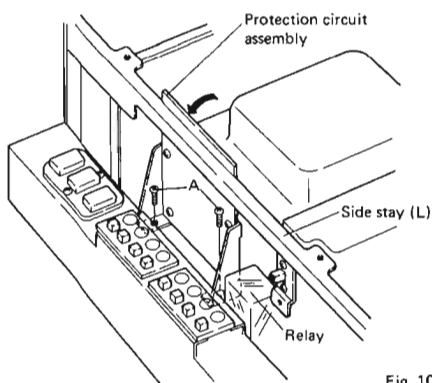

Fig. 10
**Removing the Protection Circuit Assembly (Fig. 10)**
- (1) Remove the top cover, front shield cover, bottom plate, and left side panel.
- (2) Unscrew the two screws (A) mounting the printed circuit board fixing brackets on the chassis. This permits the printed circuit board to be inclined to an angle depending on the length of the lead wires.